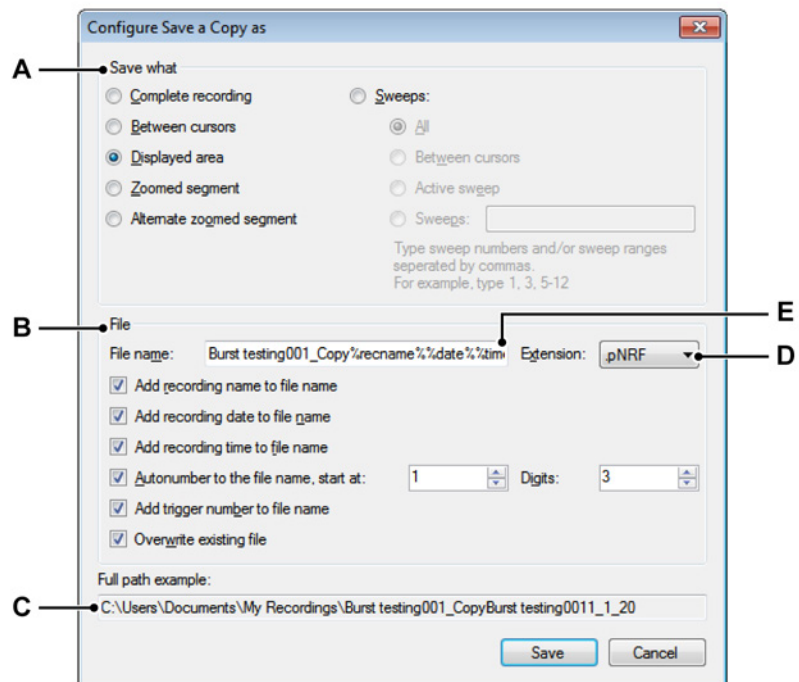

Figure 9.9: Configure Save a Copy As dialog
- B Advanced** Click the **Advanced** button to open the **Configure Save a Copy as** dialog (see Figure 9.9).